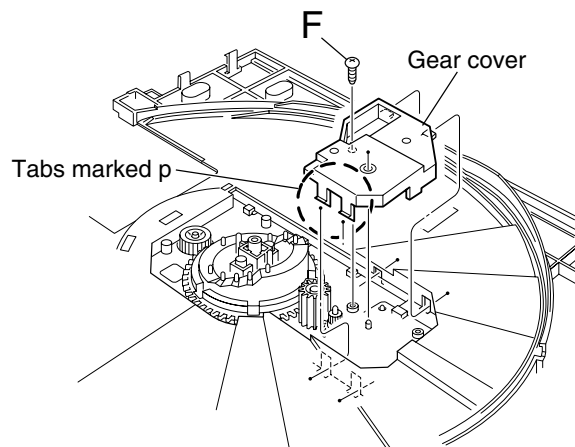

Fig.15
■ Removing the cam switch board assembly (See Fig.15 to 17)
- Prior to performing the following procedure, remove the main tray cover, the U/D cam (U) and the sub trays.
2. Remove the cam gear (2) upward.